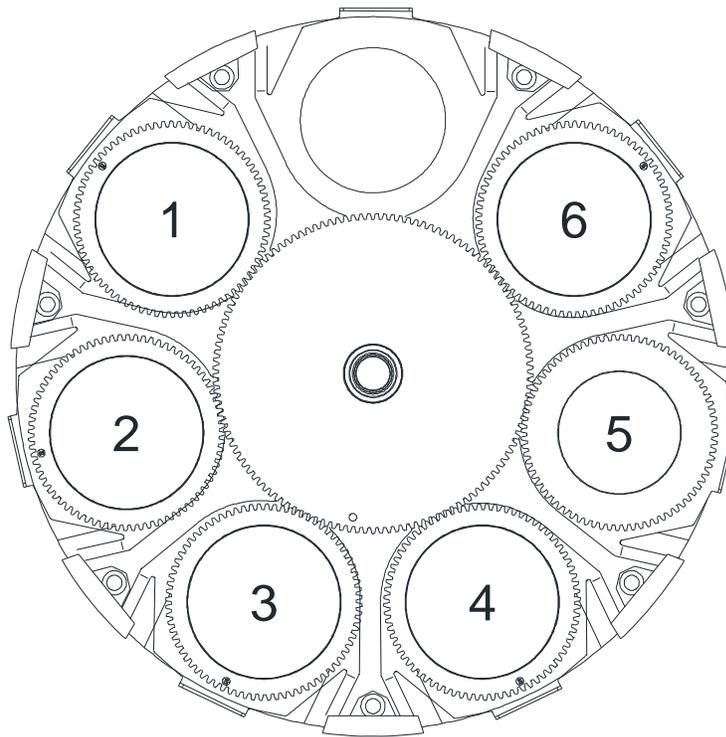

Figure 4-11: Gobo Wheel 2 Positions
- Rotate gobo wheel so that first position is accessible. Refer to **Figure 4-11** for wheel positions.